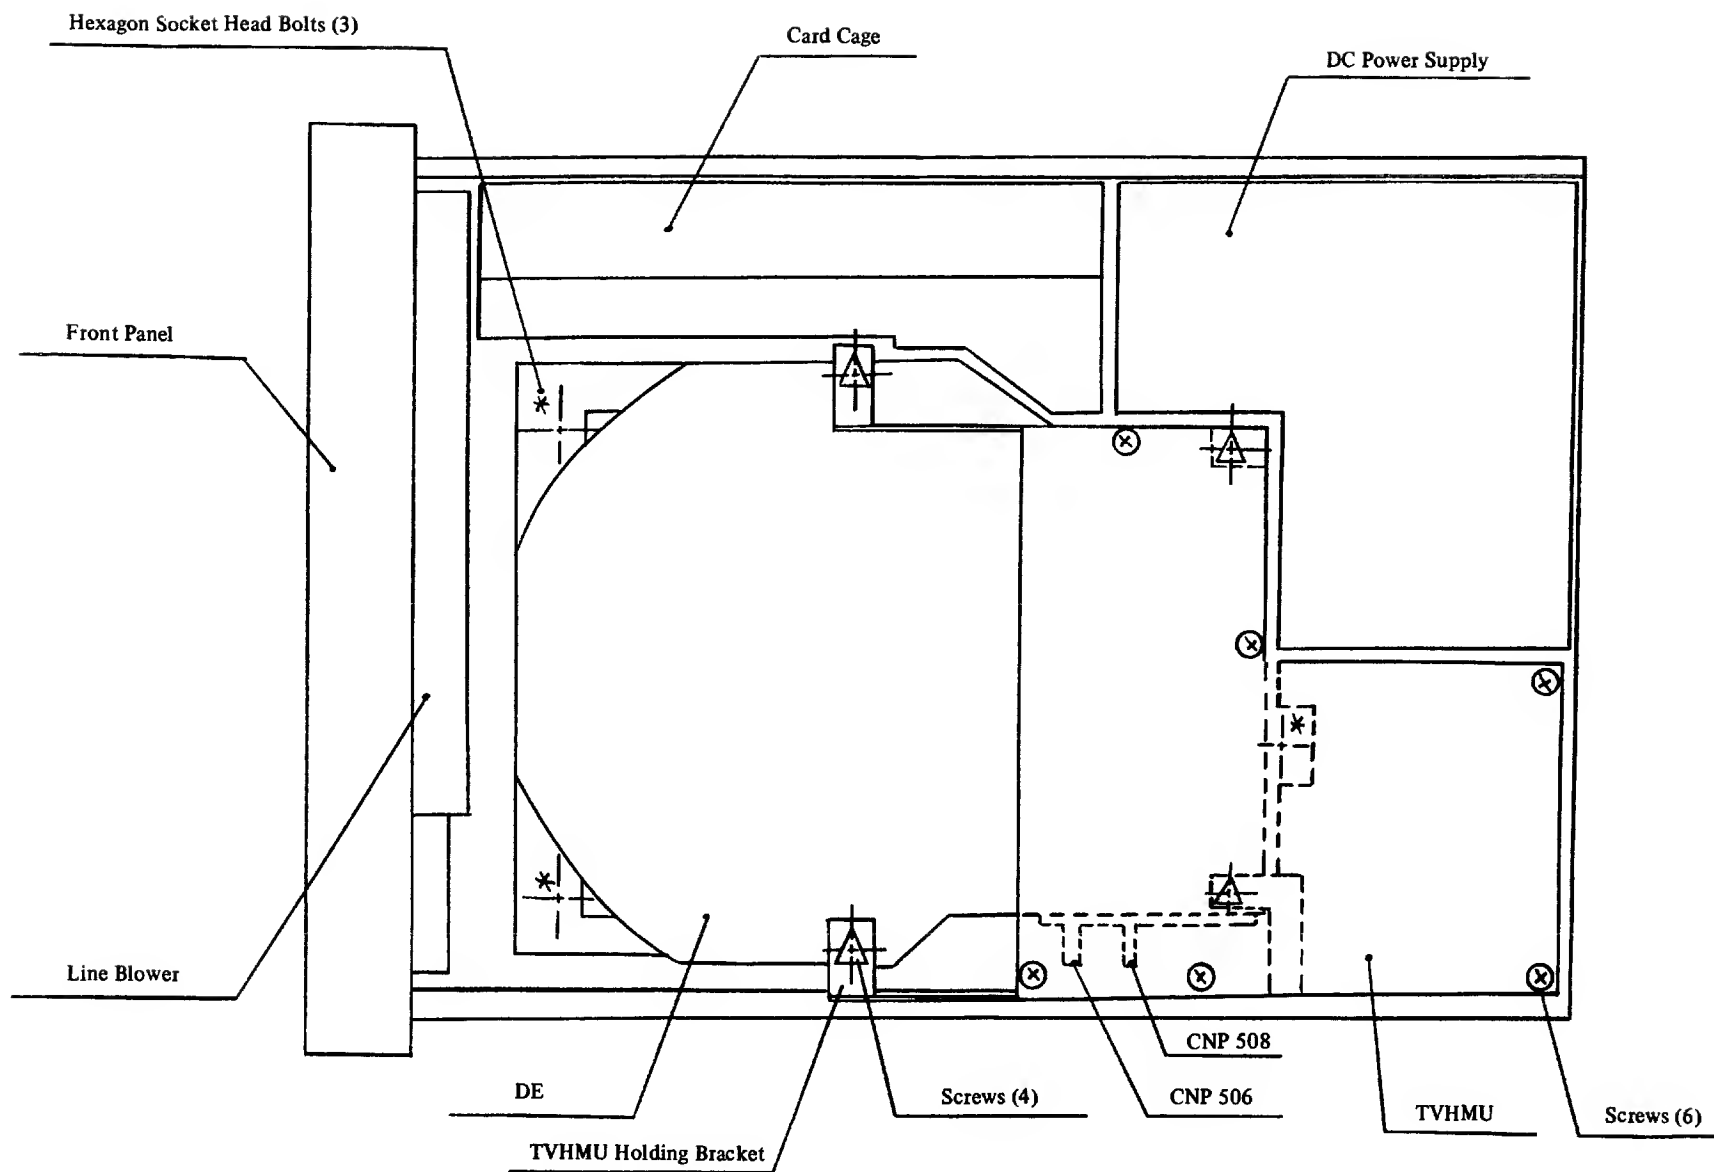

Figure 13.2-1 DE Replacement (Top View) . . . . Early version
4. Remove the 6 screws (Refer to Figure 13.2-1 ~~A~~) holding the TVHMu PCB and remove the entire TVHMu PCB.
5. Remove the 4 screws (Refer to Figure 13.2-1 ~~A~~) holding the TVHMu mounting bracket.
10. Remove the three hexagon socket-head bolts (Refer to Figure 13.2-1, \* ) from the shock mounts.
4. Remove the screw (Refer to Figure 13.2-1) and the wire.
9. Remove the three hexagon socket-head bolts (Refer to Figure 13.2-1, \*) from the shock mounts.